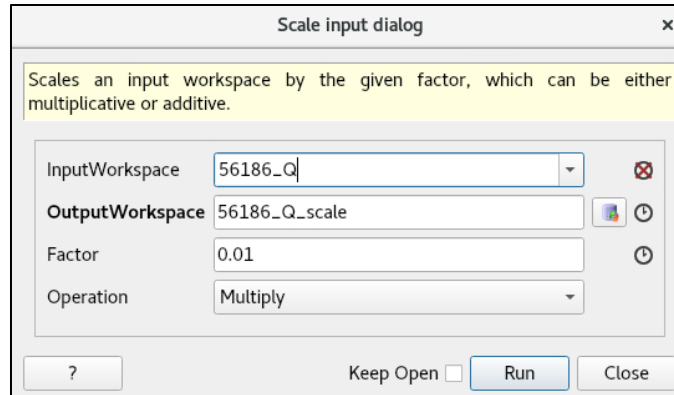

Figure 19. Scale input dialog box.
- 5.3. Execute the Scale algorithm (Figure 19). The InputWorkspace should be the converted workspace from the step above. Again, give the OutputWorkspace a different name if you do not wish to overwrite. The Factor should be 0.01 and the Operation should be *Multiply*. The purpose of this step is to reverse the scaling automatically applied during autoreduction as discussed in section 3 above.